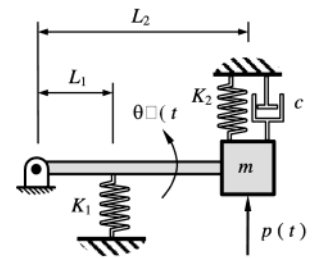

Figure Q2
2. Derive the frequency response function  $\left( = \frac{\theta^*}{P} \right)$  for the system in Figure Q2.